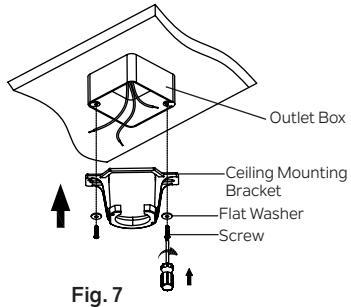

Fig. 7
**Step 1.** Before attaching fan to outlet box (not included), ensure the outlet box is securely fastened to at least two points to a structural ceiling member (a loose box will cause the fan to wobble). Pass the 120 volt supply wires from the ceiling outlet box through the center of the ceiling mounting bracket. Install mounting bracket to outlet box in ceiling using the screws and washers included with the outlet box. (Fig. 7)